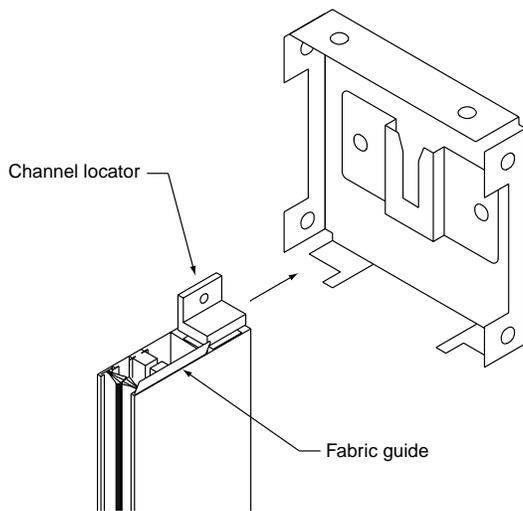

Figure 7
- ⑥ Install side channels (NOTE: Insure side channels, headbox, and sill channel are square).
- A. Install channel locator and fabric retainer in the top of each side channel then slide into place (see Fig. 7).